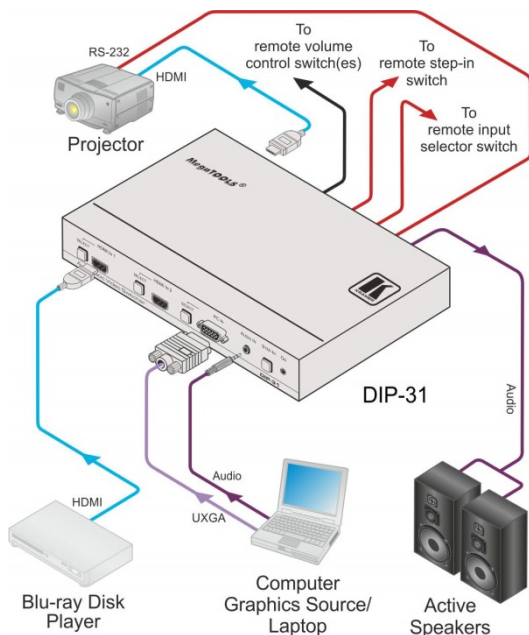

Figure 3: Connecting the DIP-31
To connect the DIP-31 as illustrated in Figure 3:
10. Connect the power adapter to the **DIP-31** and to the mains power, (not shown in Figure 3).